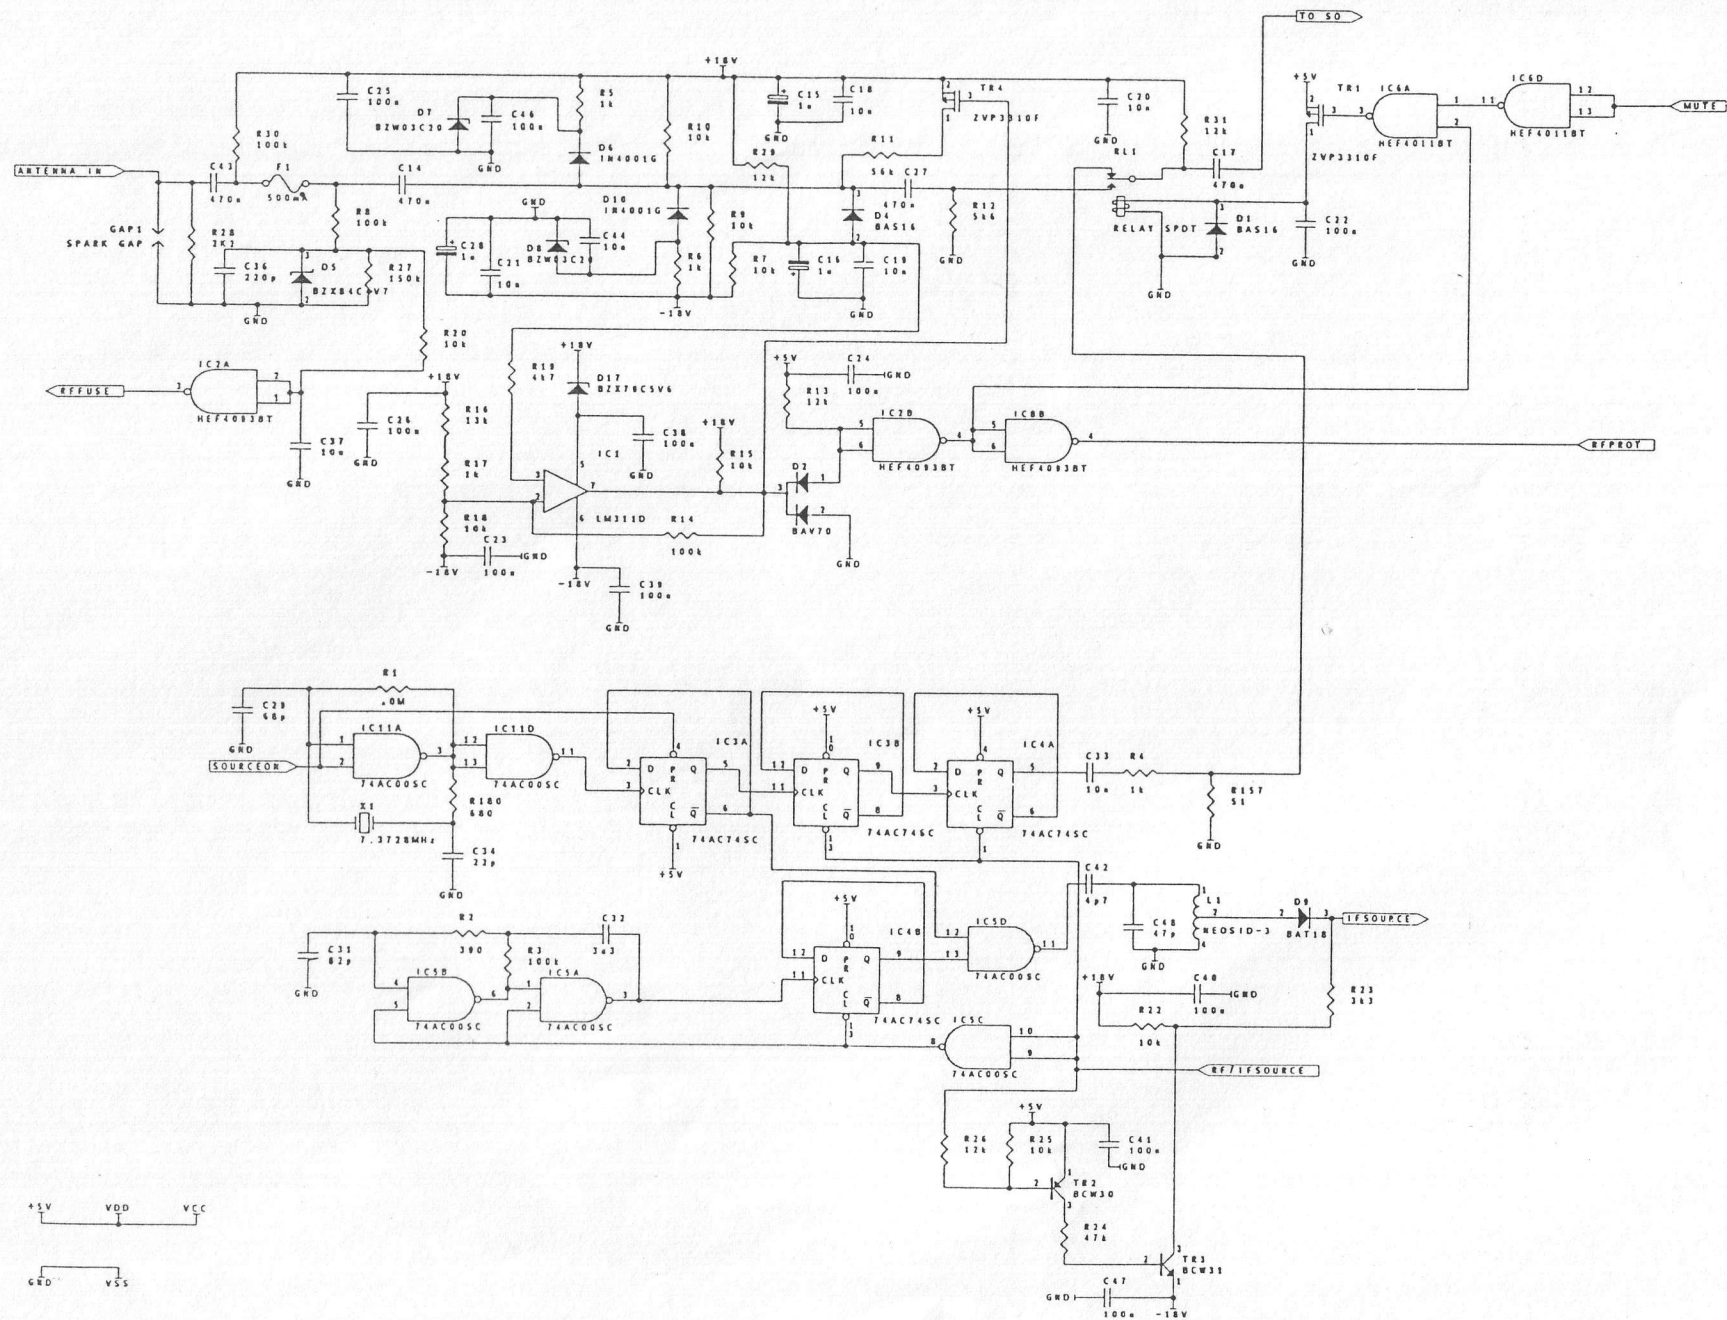

Figure 4 - RF Module Circuit Diagram
- Figure 4 IF Module Circuit Diagram, sheet 2 of 3